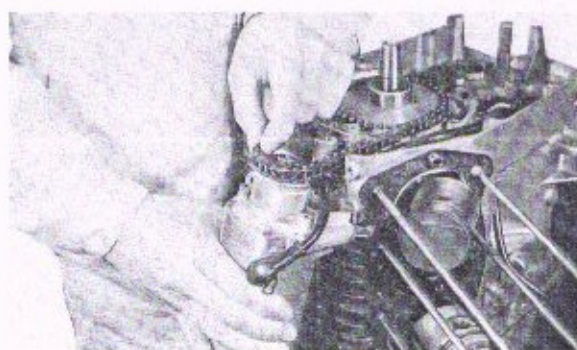

Fig. 2-18.
- d. While loosening 4 bolts of 6 mm fitted on the crankcase and taking out the starting motor from the engine case, it will be separated from engine by removing the starting sprocket from the chain. (Fig. 2-18)